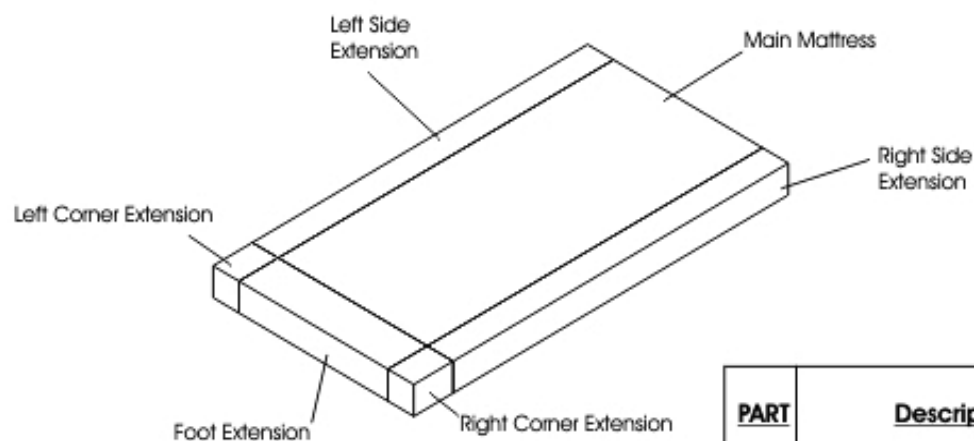

Figure 17
- i. Apply even push/pull force on Head Panel and Foot Panel handholds (Figure 17). When bed movement/transport is completed: